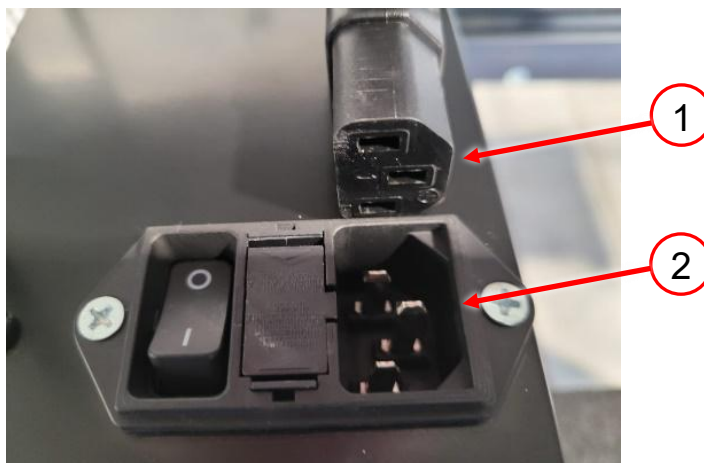

Figure 31 Connection Speed Controller VARGA VA 11
19. Insert the connection plug of the speed controller (1, Figure 31) into the connection socket (2, Figure 31) on the motor housing of the precision table saw.
15. Screw the rotary handle extension (5, Figure 31) into the handle (6, Figure 31). The rotary handle extension is primarily designed for long cuts but may remain attached for short cuts as well.